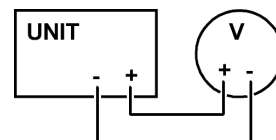

fig. 1
1. Connect a DMM voltmeter to the output terminals (see fig. 1).